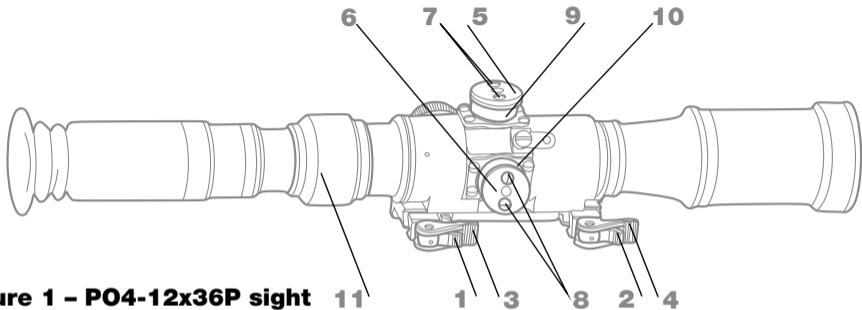

Figure 1 – P04-12x36P sight
- press the bracket latches 1, 2 one at a time (Figure 1) and open (turn) the handles 3, 4;
- set the elevation adjustment mechanism handwheel 5 (Figure 1) of the sight at the point «1», the windage adjustment mechanism handwheel 6 - at the point «0»;
- otherwise, unscrew the screws 7,8 (Figure 1) by 1-2 turns on elevation and windage adjustment mechanism handwheels and align the aiming mark with the aiming point of the iron sight by turning the handwheels (while holding scales 9, 10 in the initial position);
- carefully screw in the screws 7, 8 (Figure 1) of handwheels up to the stop and check again the coincidence of the sight reticle aiming mark with the aiming point of the iron sight. Repeat adjustment, if necessary;
Rotate magnification change handwheel clockwise 11 (Figure 1) of counterclockwise to change magnification. Magnification is changing smoothly in the whole range.